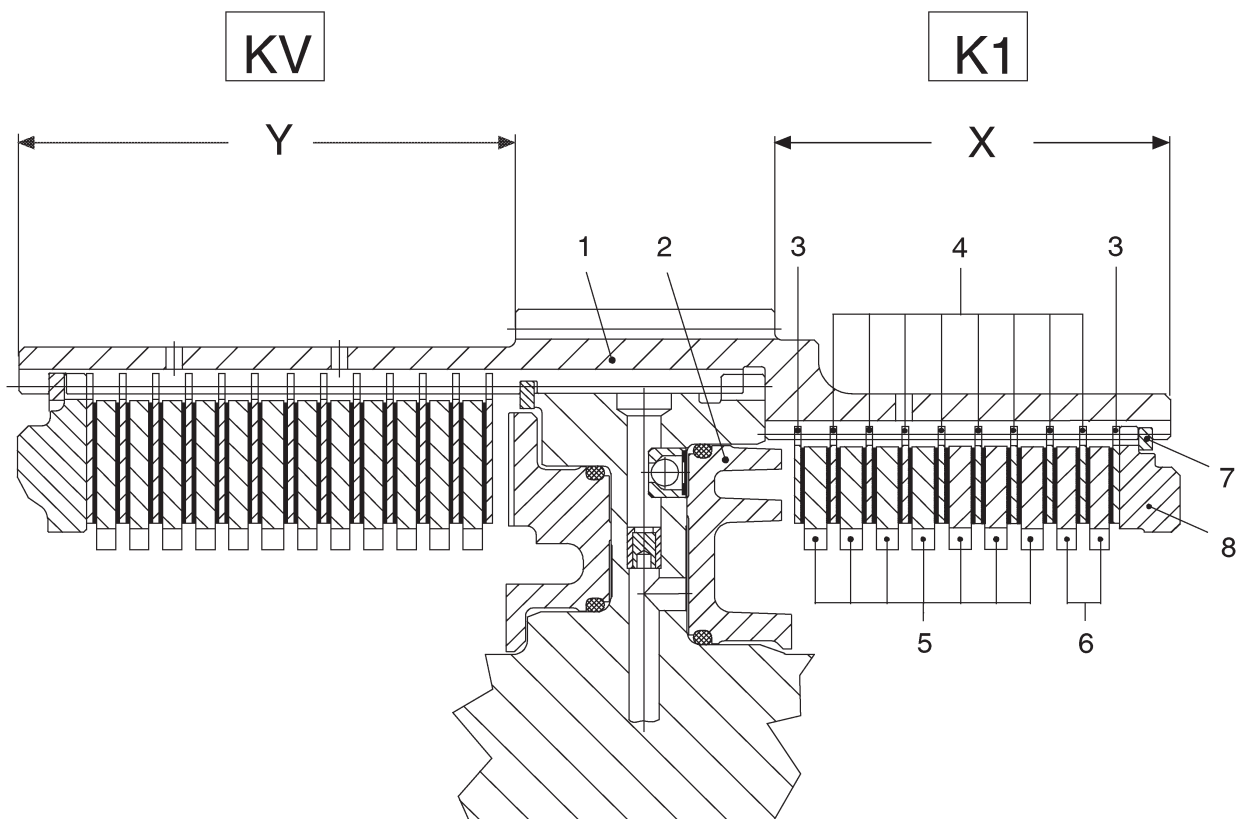

Figure 211
(1) Install disc set according to sketch or table (figure 211).